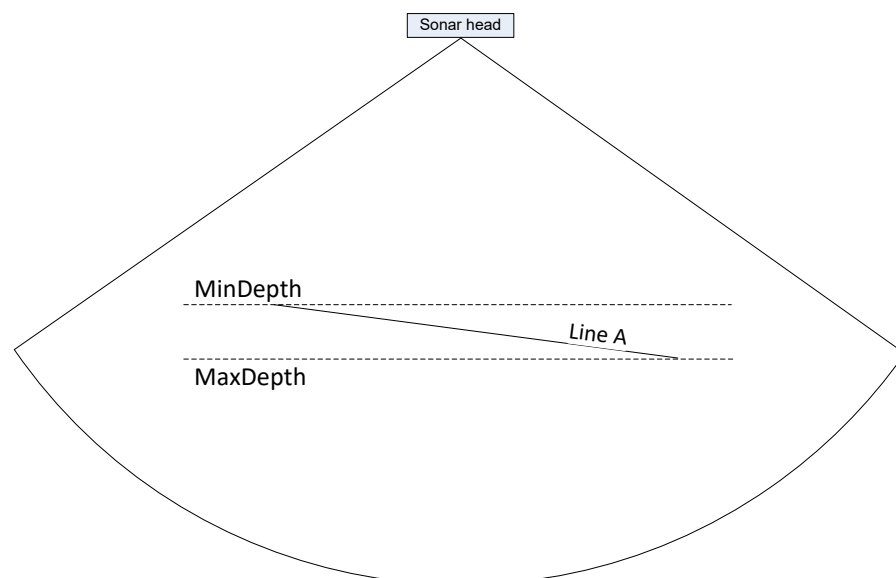

Figure 11: Depth Gates, With Roll
*Figure 11* shows the same bottom image with a small roll value to port. Notice that the ends of the swath have been cut off due to the action of the static depth gates (no motion sensor applied). In this figure, and all remaining figures in this discussion, the bottom is flat.